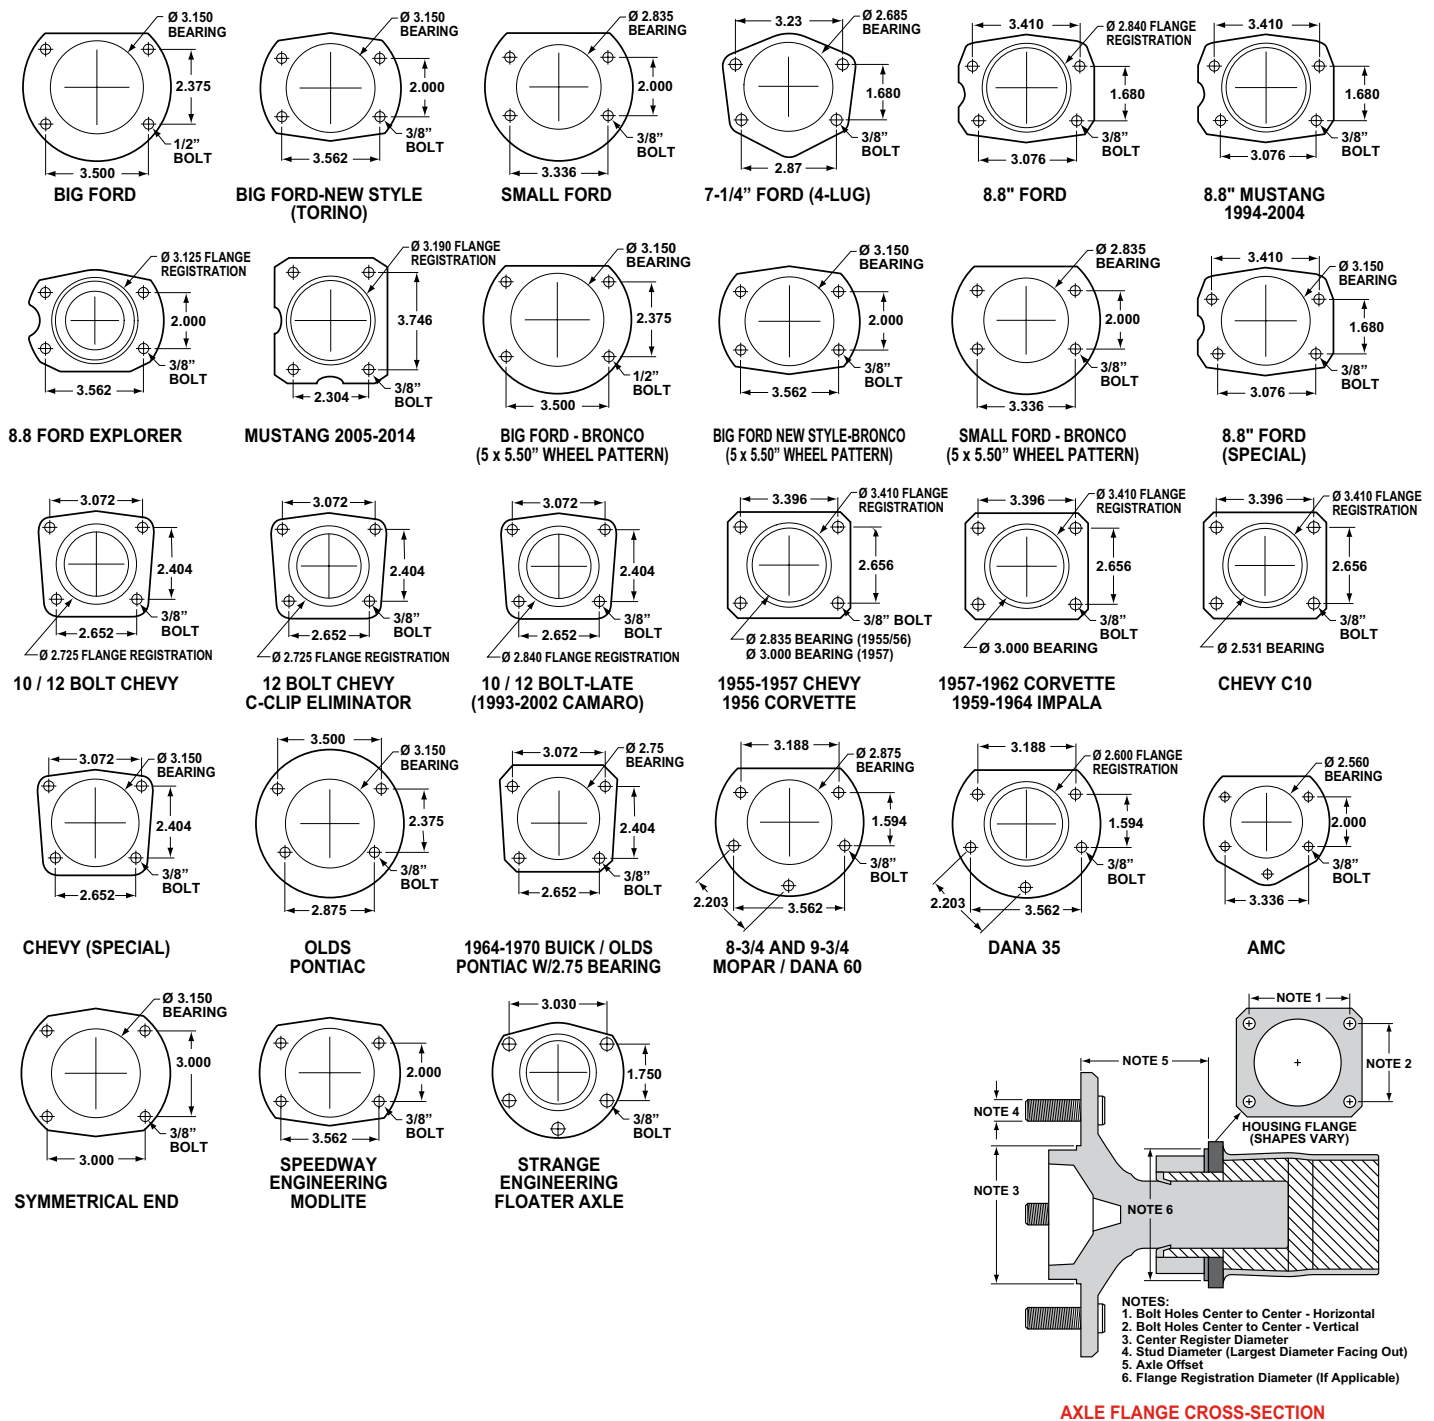

Figure 4. Rear Housing Flange Chart and Axle Flange / Offset Cross-Section
•Make sure this is the correct kit to fit the axle housing flange, not necessarily the rear end make. Many times aftermarket manufacturers put a different make of axle housing flange on the stock rear end housing (Figure 4). Example; Big Ford rear ends with Chevrolet flanges, therefore, a Chevrolet rear disc brake kit would be the correct kit to order. Also, shock clearance may be a problem. They may have to be modified and/or relocated to clear the Wilwood kit after final assembly.
- Dimension from wheel side of axle flange to wheel side of axle housing flange (see Figure 4, lower right hand corner). This dimension is critical to ensure proper alignment of the rotor to the caliper, and should match offset given in the kit description.